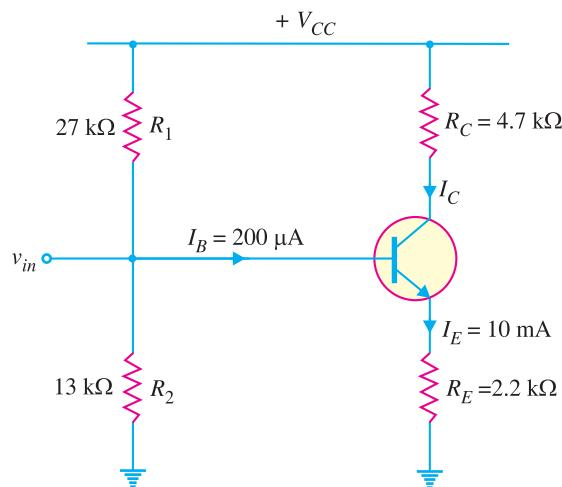

Fig. 10.33
**Example 10.19.** For the circuit shown in Fig. 10.33, determine (i) the current gain (ii) the voltage gain and (iii) the power gain. Neglect the a.c. emitter resistance for the transistor.